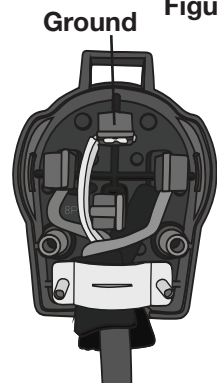

Figure 31
**3** The appliance is equipped with; one black wire, one red wire, one yellow/green (ground) wire. Secure the appliance wires to the plug tightly. (See Figure 31)
**4** Trim the appliance wires to fit inside the plug. Connect the wires to their respective terminals on the plug, leaving the middle slot open. Note that the ground wire goes in the top slot and the two live wires go in the right and left slots. (See Figure 31)